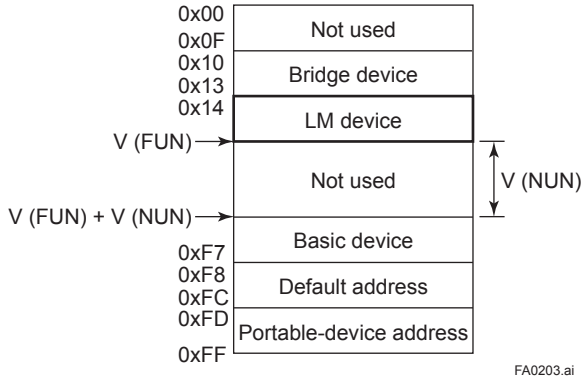

Figure 3. Node Address Ranges
- (3) In the LAS settings of the YVP, set the values of V(FUN) and V(NUN) so that they include the node addresses of all nodes within the same segment. (See also Figure 3.)